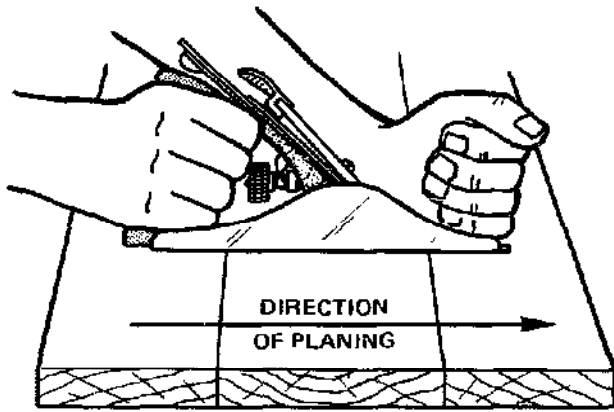

Fig. 8-35 Planing a broad surface.
3. Plane straight across the boards, figure 8-35. Apply pressure at the start on the knob and at the heel at the end of the cut as described for other types of planing.